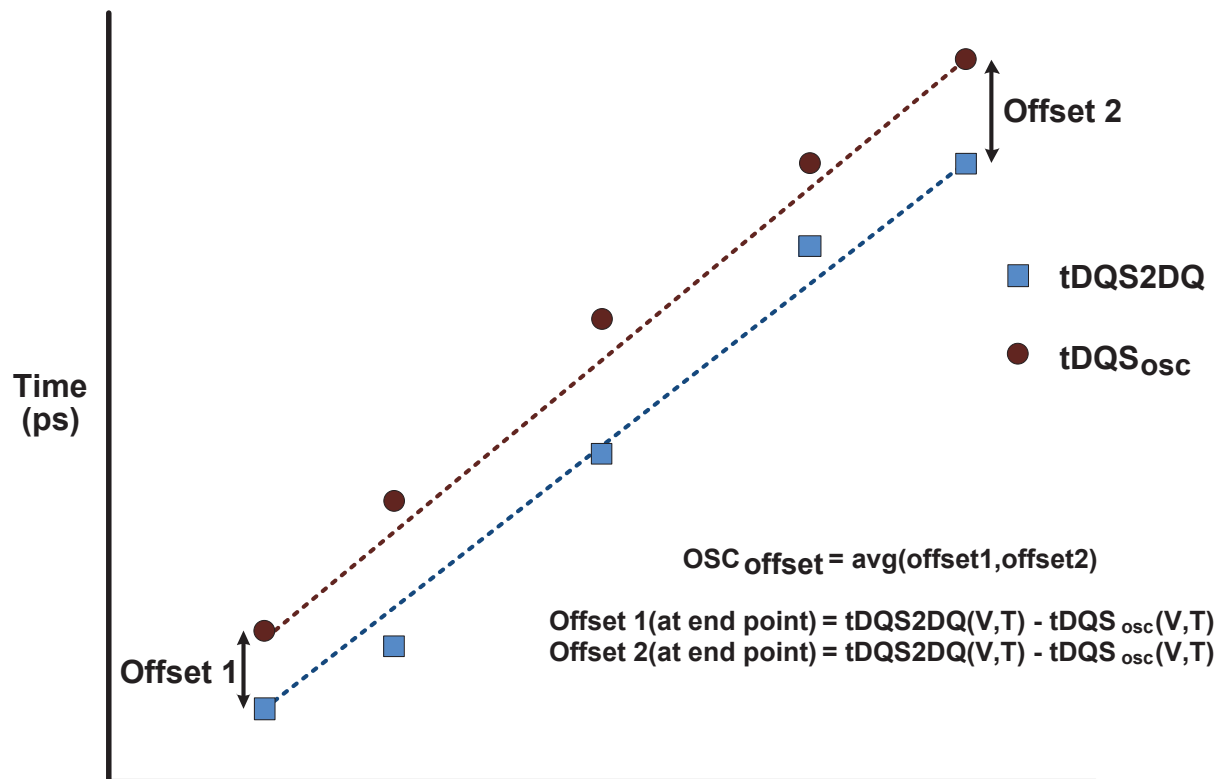

Figure 4.103 — Interval oscillator offset $OSCOffset$
- $OSCOffset$: Average delay difference over voltage and temp(shown in Figure 4.103)